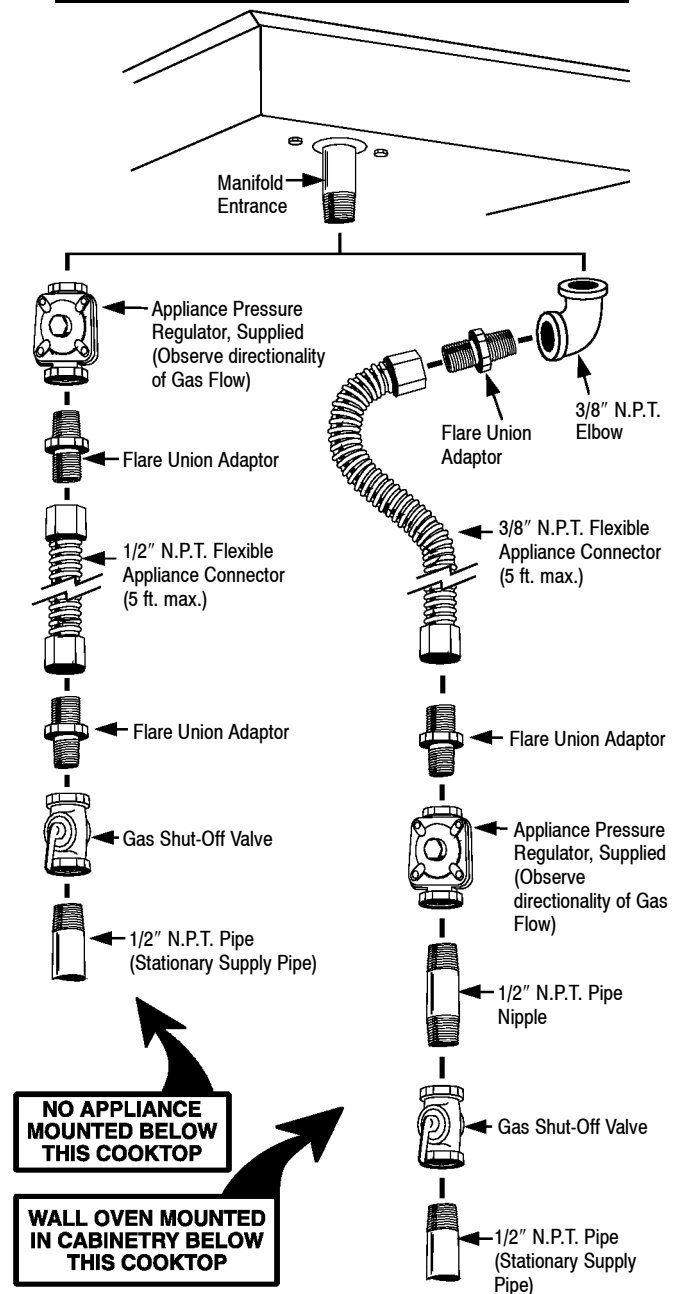

FIGURE 5
- If the alternative piping method shown in figure 5 is selected for the installation, no union is required. (The flexible appliance connector illustrated provides the union joints necessary for servicing.) When a dividing wall is present and a flexible connector is used, it is recommended for convenience in both installation and service, that the flexible connector pass through the dividing wall. **Any flexible connector used with this appliance must satisfy all requirements stated in the text accompanying figure 5.**
Unless prohibited by local codes or ordinances, a new A.G.A. - Certified, flexible metal appliance connector may be used to connect this appliance to its gas supply. The connector must be no more than 5 feet in length. Per figure 5, use appropriate flare union adapter at each end of the flexible connector. If a flexible connector is used assure that both the appliance pressure regulator and manual shut-off valve are joined solidly to other permanent hard piping (either gas supply or the appliance manifold) so as to be physically stationary. See illustrations below.